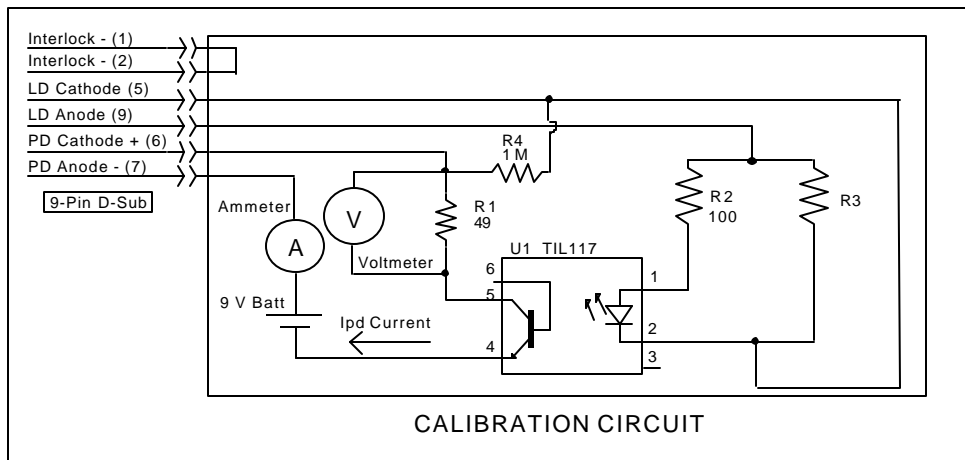

Figure 5.1 I_{PD} Calibration Circuit
- a. Select the CSM-39800 to be calibrated by pressing the appropriate (ADJUST) switch. With the LASER output off, connect a calibrated ammeter to the PD Anode output of the CSM-39800, and connect the circuit of Figure 5.1 to the LASER and PD outputs.
- a. With the LASER output off, connect a calibrated ammeter to the PD Anode output of the CSM-39800, and connect the circuit of Figure 5.1 to the LASER and PD outputs.
If a calibrated ammeter (with 0.1 μA resolution) is not available, place a calibrated DMM (with 0.1 mV resolution) to measure the voltage across the resistor, R1, as shown in Figure 5.1. Calculate the current in the following steps by using Ohm's Law: